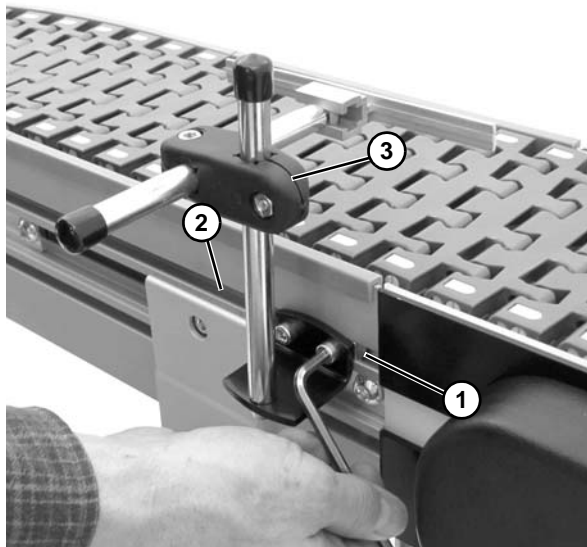

Figure 34
1. Insert drop-in tee bars (**Figure 34, item 1**) into the conveyors t-slot (**Figure 34, item 2**), if applicable, and attach fully adjustable brackets (**Figure 34, item 3**). Evenly space along length of conveyor.